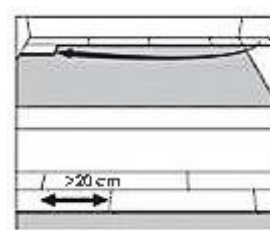

Figure 2
11. Position the first plank of the second row by angling it up slightly, pushing forward and interlocking the side tongue (**Figure 2**).